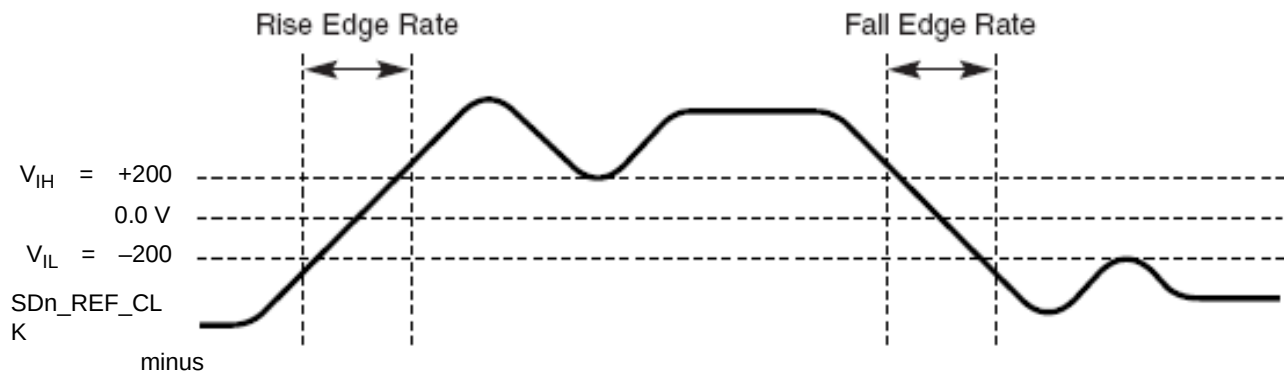

Figure 47. Differential Measurement Points for Rise and Fall Time
The differential waveform is constructed by subtracting the inverting signal ($\overline{TXn}$, for example) from the non-inverting signal (TXn , for example) within a differential pair. There is only one signal trace curve in a differential waveform. The voltage represented in the differential waveform is not referenced to ground. Refer to Figure 47 as an example for differential waveform.
3. Measured from -200 mV to +200 mV on the differential waveform (derived from SDn_REF_CLK minus $\overline{\text{SDn_REF_CLK}}$). The signal must be monotonic through the measurement region for rise and fall time. The 400 mV measurement window is centered on the differential zero crossing. See Figure 47.